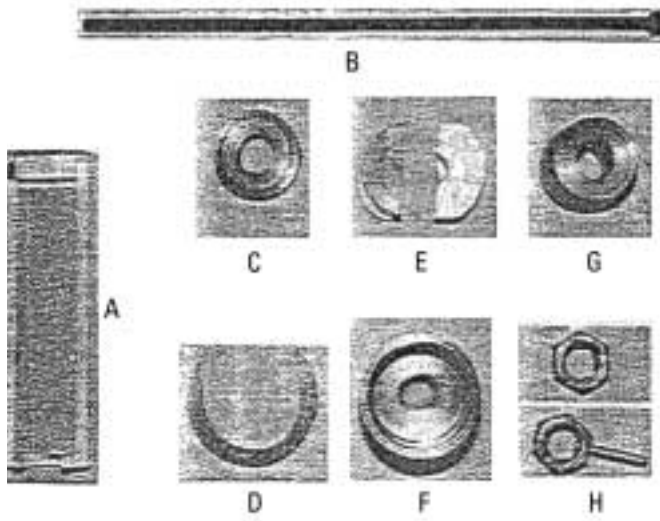

Figure 1: The Klein Attitude headset removal and installation tools
- A) 2. On the non-drive side, place spacer (1) over the spindle followed by the step washer and crank bolt (tighten crank bolt finger tight).
- A) 3. On the drive side, place the rubber guide over the bottom bracket shell. Now, slide the steel tube into the rubber guide until it is up against the bottom bracket shell. While setting up the main screw (**important**), maintain a well lubricated main screw during the entire procedure (a light penetrating oil is preferred). Thread on the driver nut all the way followed by the thrust bearing. Then place spacer (G) with the shoulders away from the thrust bearing, over the main screw. Now, place the entire assembly into the steel tube and thread the main screw into the spindle (see Fig. 1). Hold the main screw in place and thread the driver nut towards the bottom bracket. This continued action will extract the entire unit.
The Klein headset installation tools include the following parts (see Fig. 1 on page 31):